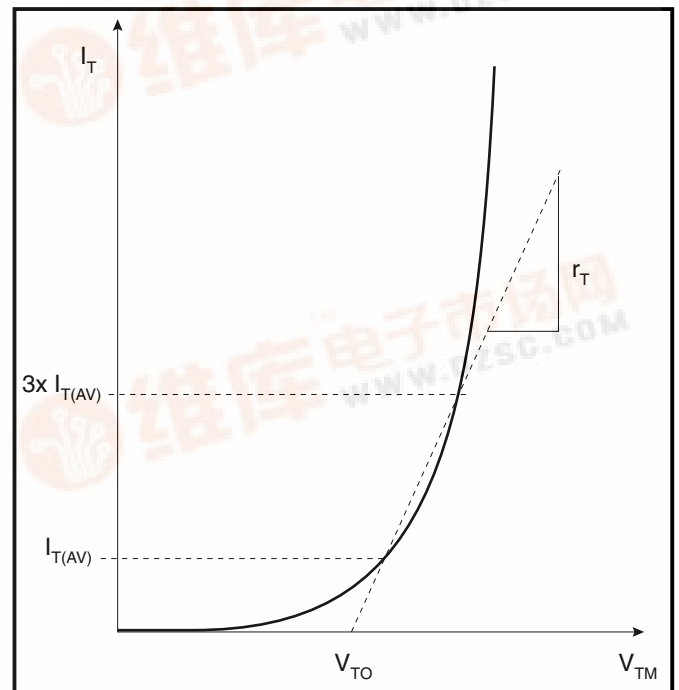

Fig.2
- 2) As fig. 2, where a chord is drawn through $I_{T(AV)}$ and $3xI_{T(AV)}$. This variation is the one used by Dynex for the calculation of data sheet power losses and current ratings. The definition is commonly used for thyristors. For rectifier diodes a chord through $3xI_{T(AV)}$ and $5xI_{T(AV)}$ sometimes gives a better result.